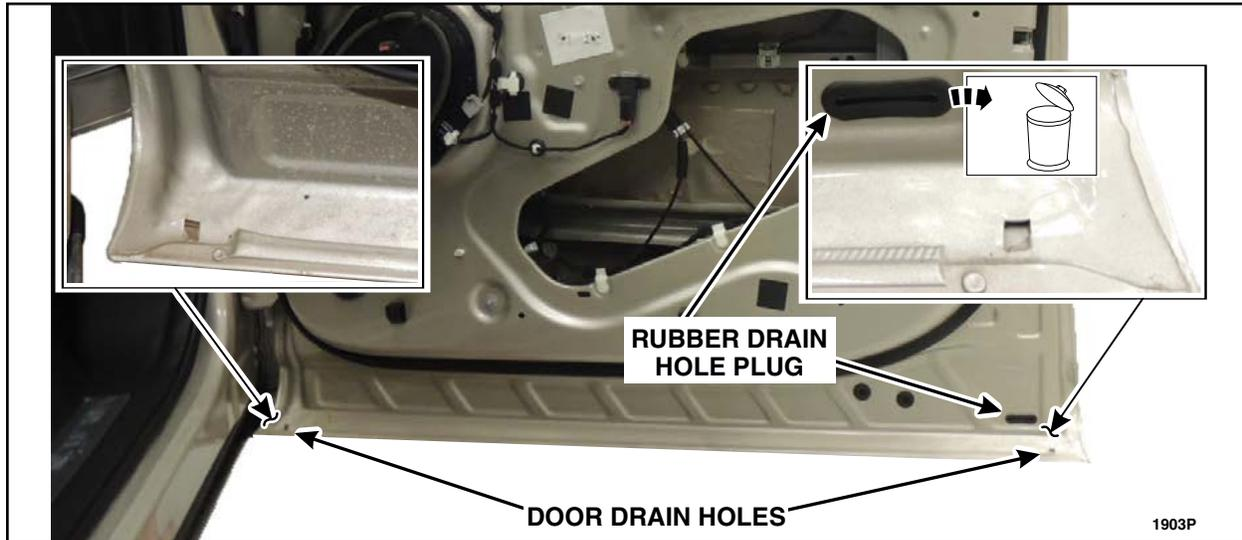

FIGURE 2
2. Remove and discard the rubber drain plug and clean any obstructions, debris, foreign material and residual water from all of the door drain holes using compressed air and a tool such as a plastic trim tool or a zip tie. See Figure 2.